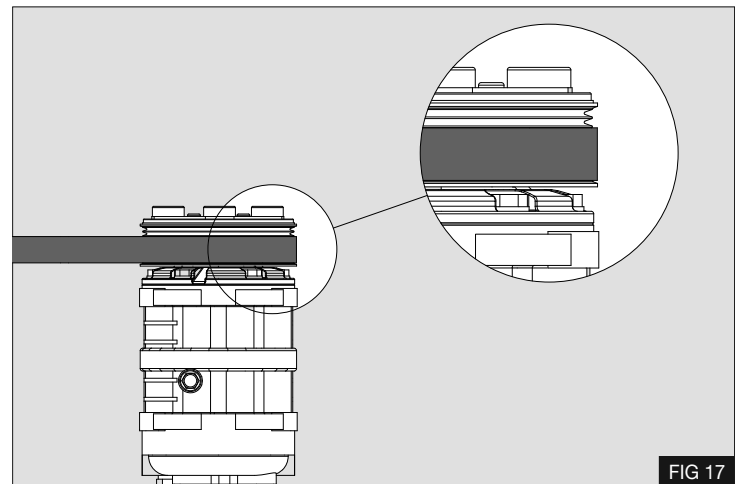

FIG 17
2. TM/QUE: Belt is Installed at the front of the compressor - Fig 17